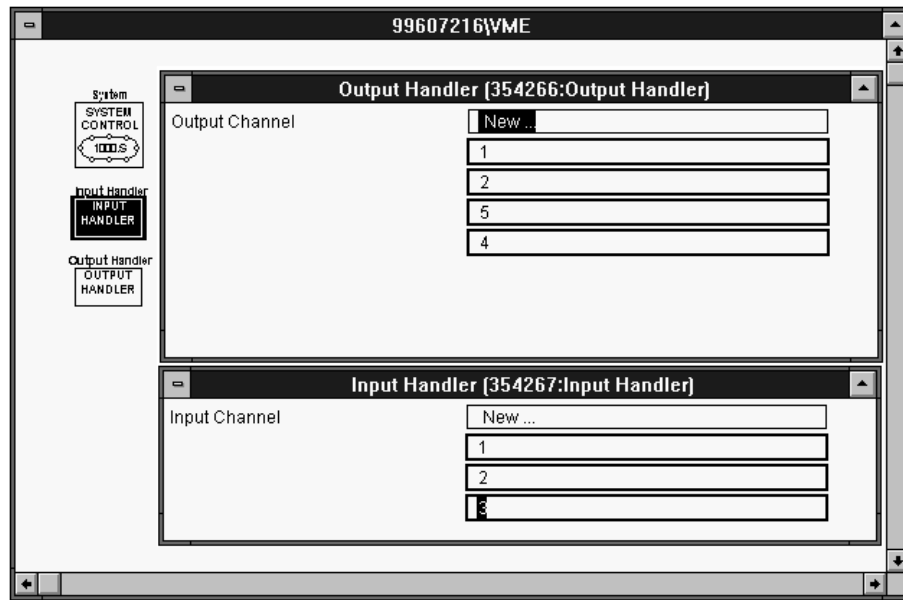

Figure 5 - VMEHandler Channel Sequencing
**NOTE.** The input and output channels must be numbered sequentially starting at 1. ConfigEd will number the entries correctly but if the user edits the configuration (by adding or deleting entries in the handler) the numbers may get out of sequence. Figure 5 shows the Input Handler with correct sequencing and the Output Handler with incorrect sequencing.